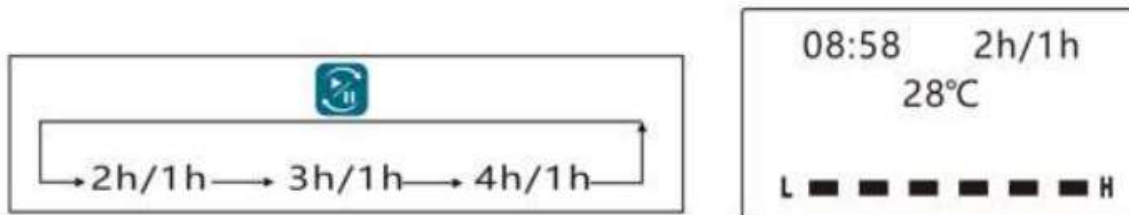

Figure 10
f. When set Timer-2, Display cycle time above the display screen "2h/1h" as figure 10.